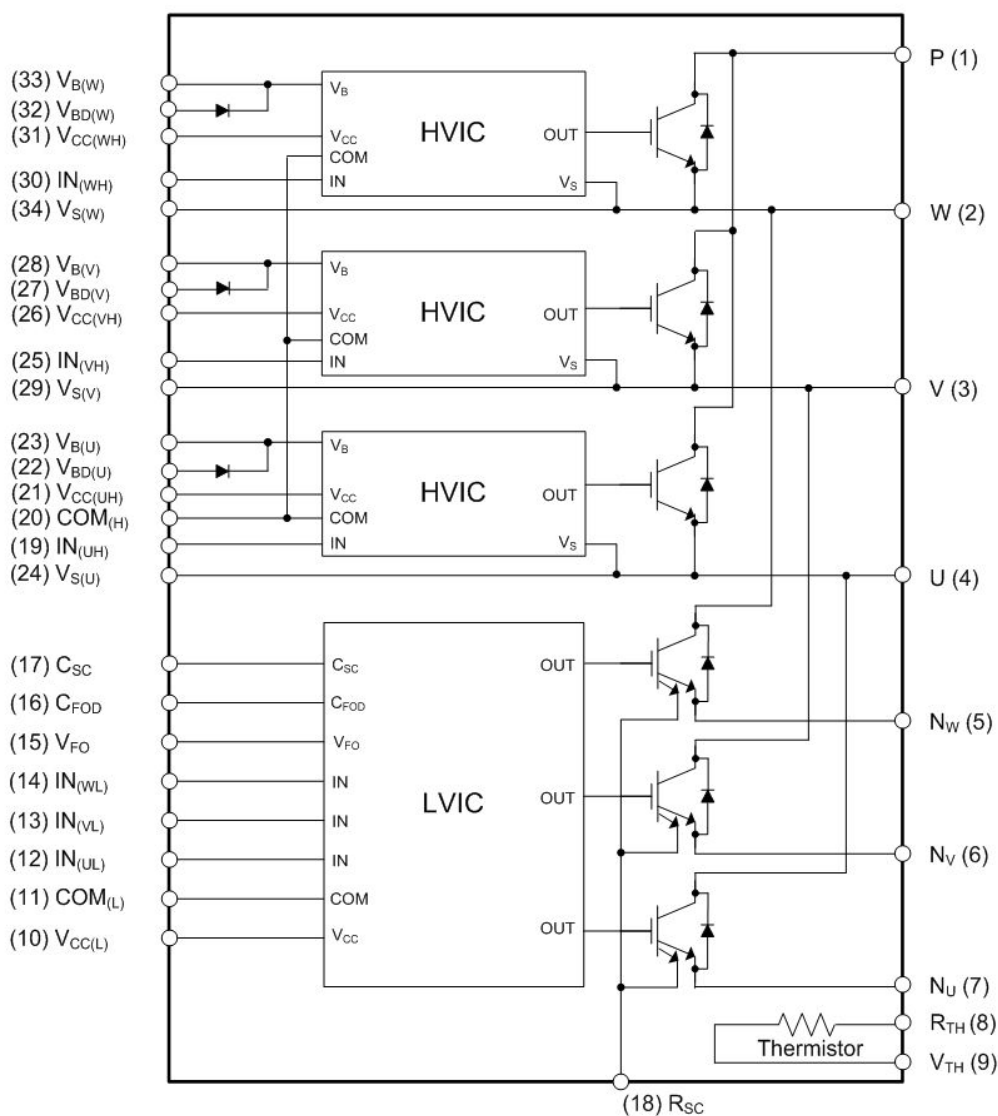

Figure 3. Internal Block Diagram
- 600 V - 50 A IGBT inverter for three-phase DC / AC power conversion (refer to Figure 3)